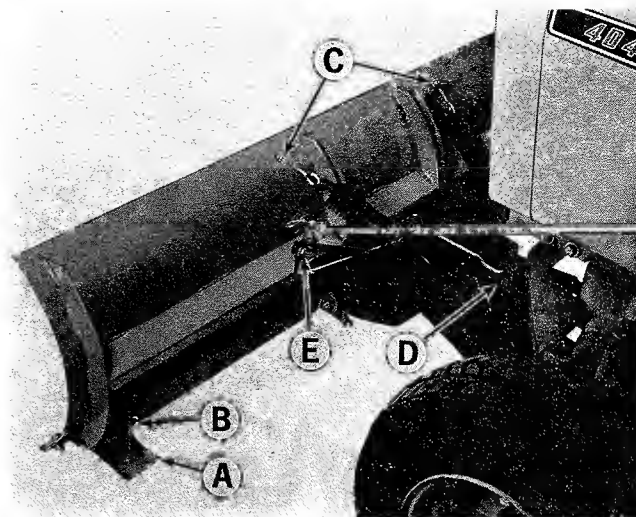

Figure 11. Left rear corner of blade.
See figure 11. An adjustable skid shoe (A) is provided at each end of the 60" snow plow and dozer blade. These skid shoes can be easily adjusted by placing a block under the blade and loosening slightly the two capscrews (B). Skid shoes can be moved up or down in the slotted mounting holes to obtain the desired height. Both skid shoes should be adjusted to approximately the same position.
The skid shoes should be adjusted all the way up as shown in figure 11 when operating on smooth hard surfaces, where it is not likely to strike a solid object or when it is desirable to dig a ground or gravel surface. The skid shoes should be lowered to hold the grader blade above the ground surface when grading gravel driveways or rough areas where the blade might catch solid objects. Tighten capscrews (B) securely after making any adjustments.
1. See figure 11. The Simplicity snow plow and dozer blade is spring loaded so when the blade strikes a solid object, the springs will allow the blade to release rather than cause damage to it. The spring tension can be adjusted by loosening the locking nuts at (C) and turning them clockwise to place more tension on the blade so it will not release as easily or counter-clockwise to give the springs less tension and allow the blade to release more easily.
See figure 11. Coat the hitch assembly at (D) with a film of grease to help reduce wear, and make angling the blade easier. Place a coat of grease or a few drops of engine oil on the control arm pivots at (E) to make it easier to operate.